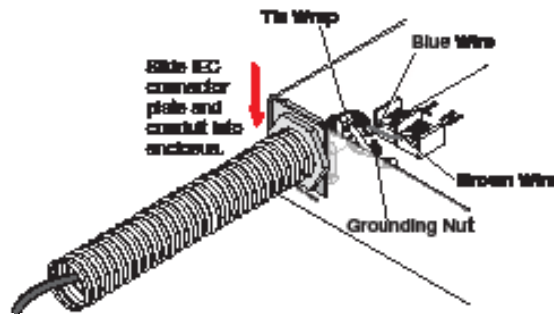

Figure 10. Install the Conduit Assembly
11. Connect the ground wire, as shown in figure 10, above, to the grounding stud located on the bottom of the enclosure using the nut removed in step 4.